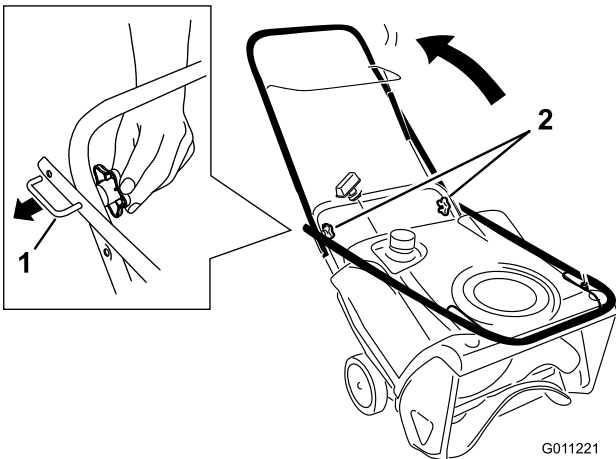

Figure 3
1. Loosen the handle knobs, pull out the “U”-shaped handle locks until you can move the handle freely, and rotate the handle to the operating position (Figure 3).